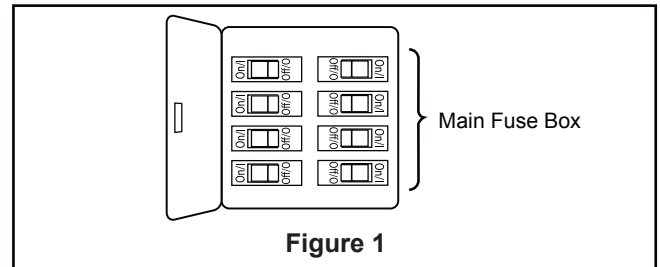
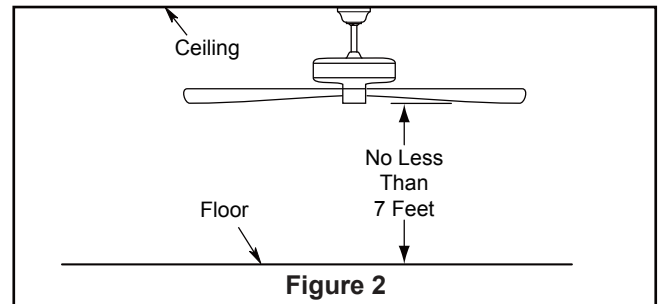

Figure 1
Figure 2
Your new ceiling fan will require a grounded electrical supply line of 120 volts AC, 60 HZ, 15 Amp Circuit. Electrical code requires use of a fan-rated outlet box to support the extra weight and motion associated with a ceiling fan. A fan-rated box will be labeled as such and typically supports up to a 70lb ceiling fan. Fan-Rated Outlet Boxes vary in ratings and design. Ensure the ratings of your ceiling fan outlet box meet the requirements for the ceiling fan being installed. Figure 1, Figure 2 and Figure 3 depicts different structural configurations that may be used for mounting the outlet box.
### Low profile box (Figure 1)
### Deep box (Figure 2)
- 1. Prior to assembly, set aside and save the hardware bags included in the packaging. Remove the hanger ball by loosening the set screw in the hanger ball until the ball falls freely down the downrod. Remove the pin from the downrod, then remove the hanger ball. Retain the pin and hanger ball for reinstallation in Step 6. (Figure 1)
- 2. Remove the hairpin clip and clevis pin from the bottom of downrod. Retain the pin and clip for reinstallation in Step 4. (Figure 2)
To avoid possible fire or shock, be sure electricity is turned off at the main fuse box before hanging. (Figure 1)
The fan must be hung with at least 7' of clearance from floor to blades. (Figure 2)
- 1. To set the code on receiver unit, slide dip switches to the same positions as set on the remote control. (Figure 1)
To avoid possible electrical shock, be sure electricity is turned off at the main fuse box before wiring. (Figure 2)